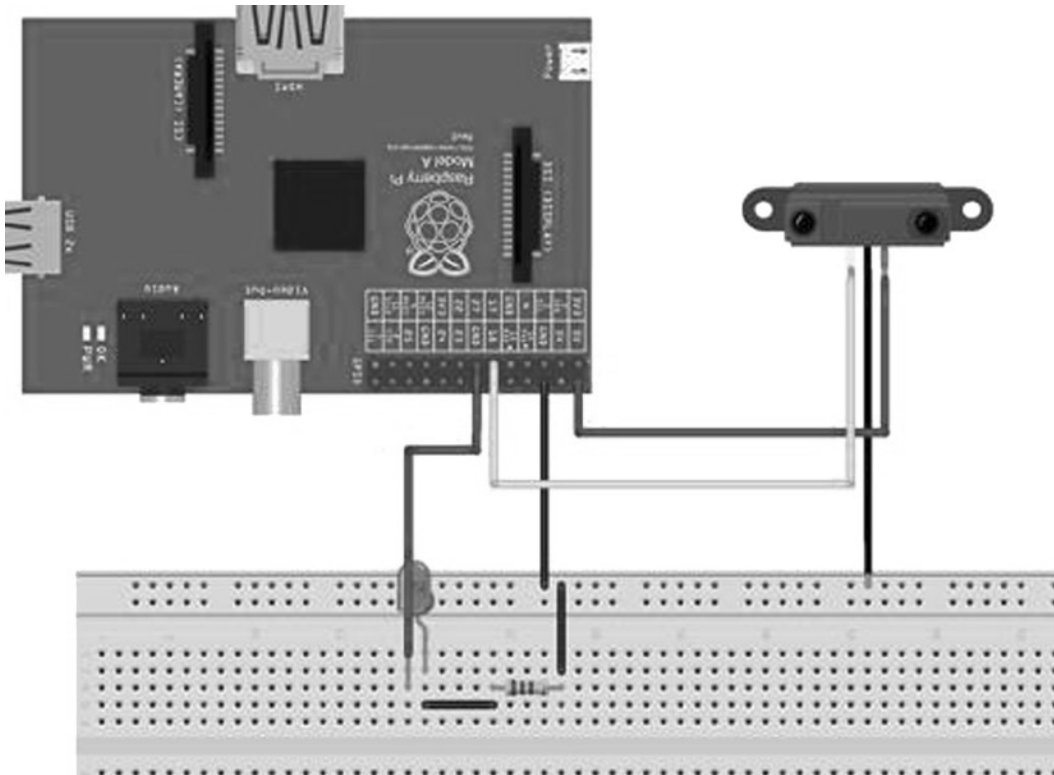

Figure 9-9. IR sensor and LED test setup
That's it for the test code! To test the code and the sensor setup, first connect the (+) pin on the sensor to pin #2 on the Pi. Connect the OUT pin to pin #11 on the Pi. Connect the (-) pin to a common ground line on your breadboard. Finally, connect pin #13 on the Pi to the positive leg of your LED, and connect the negative leg of the LED (through a resistor) to the common ground line. You should end up with something like the configuration you see in Figure 9-9.
■ **Note** The image in Figure 9-9 was created with Fritzing (<http://www.fritzing.org>), a great open-source breadboarding/design tool. It's cross-platform, very easy to use and learn, and highly recommended.